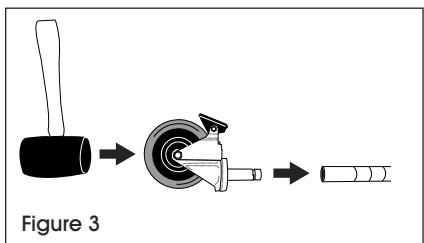

Figure 3
1. Make sure post is positioned as shown. (See Figure 3)
2. Engage the wheel brakes to keep casters from rolling during assembly. Use a rubber mallet to tap caster stem into posts. (See Figure 3)